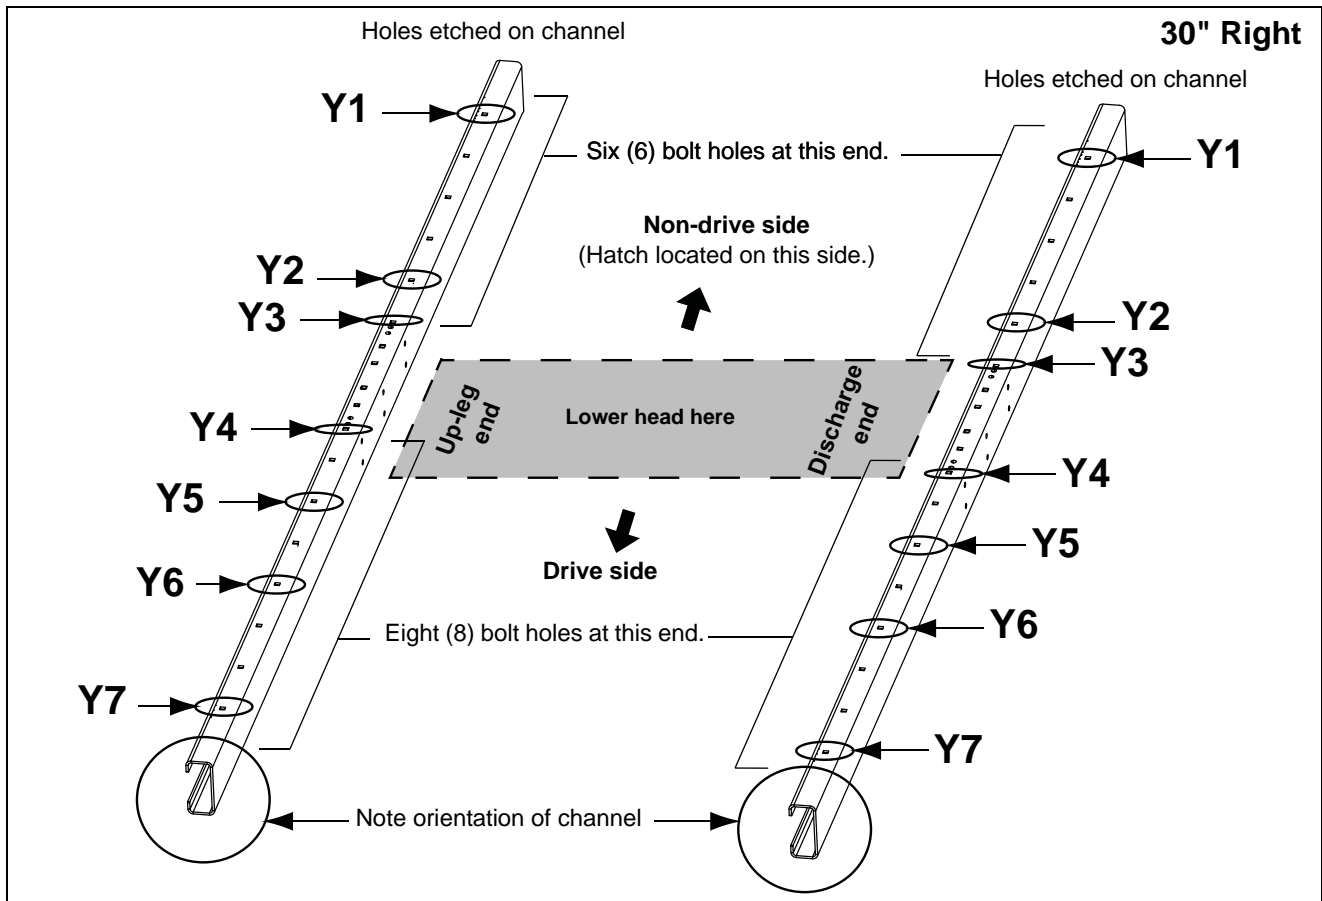
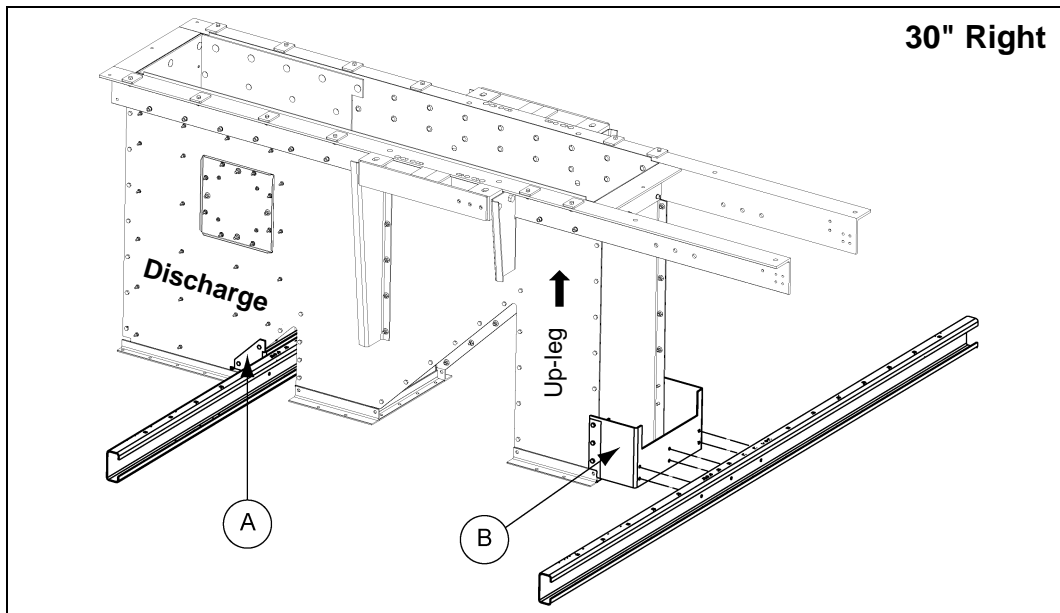

Figure 8B 30" Right Side Drive Channel Position
Figure 8C 30" Right Drive - Cross Deck Support Channels to Lower Head Brackets
(See Figure 8C on Page 53.)
3. Attach cross deck support channels (HP36CDSCX) to the top-most set of holes of the lower head brackets (HSP36130) using 3/8" x 1" bolts and nuts and properly. (See Figure 8C on Page 53.)
***NOTE:** *The channels MUST be oriented as shown in Figure 8B and Figure 8C on Page 53 in order for the decking and subsequent assembly to be done correctly.*